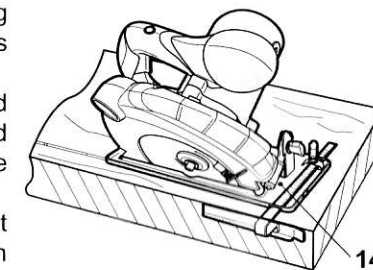

Fig. 12
- > Adjust the required cutting angle; ensure the lever (4) is properly tightened.
- > Place the base plate (14) flat on the workpiece and push the product forward at an even speed (Fig. 12).